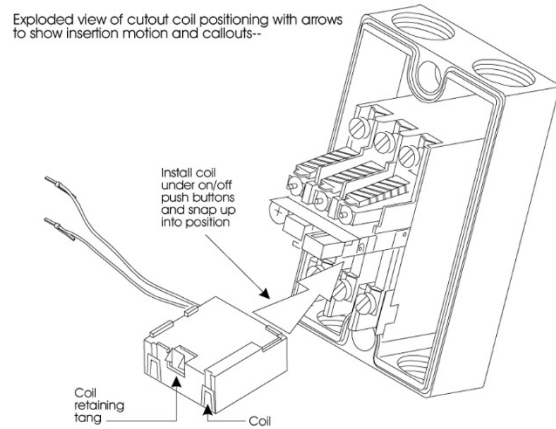

Figure 3: Cut-out coil removal and replacement
3. Locate the cut-out coil which is under the switch. See Figure 3 for position and removal/installation motion.